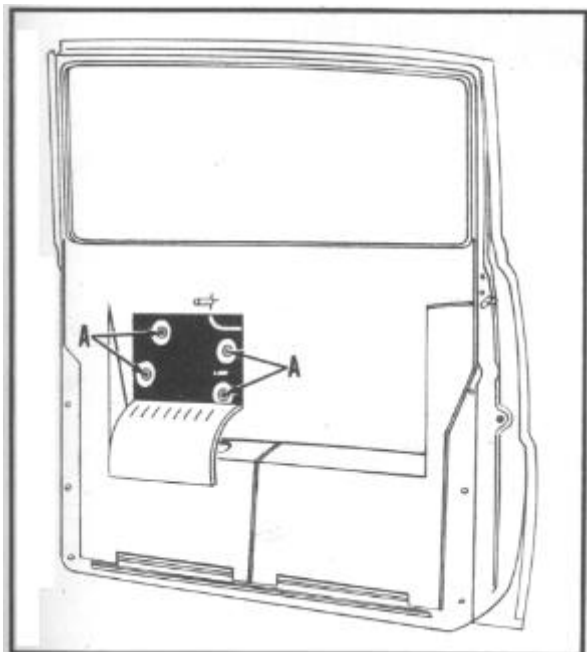

FIGURE 29
3. Cut door inner liner as shown in Figure 29.
4. Remove 4 screws (A) holding regulator to door inner panel.